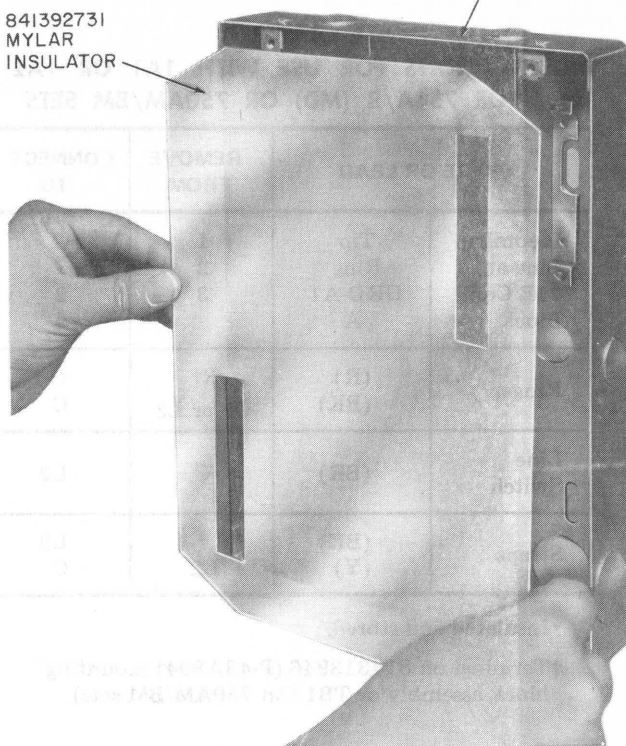

Fig. 3—Placing Mylar Insulator into Apparatus Box
- 841392731 Insulator (for placing in apparatus box), Fig. 3
- (1) Remove cover of apparatus box, if so equipped (see section covering apparatus boxes).
- (2) Place the 841392731 mylar insulator (provided with the set) in the apparatus box (Fig. 3). This provides insulation between the network terminals and the apparatus box.
- (3) Install 71B connecting block (ordered separately) to mounting bracket located in upper right corner of apparatus box. (Refer to Division 461 for further information on this type of connecting block.)
- (4) Secure mounting cord stayhook and terminate inside wire or cable and mounting cord in accordance with appropriate connection section.